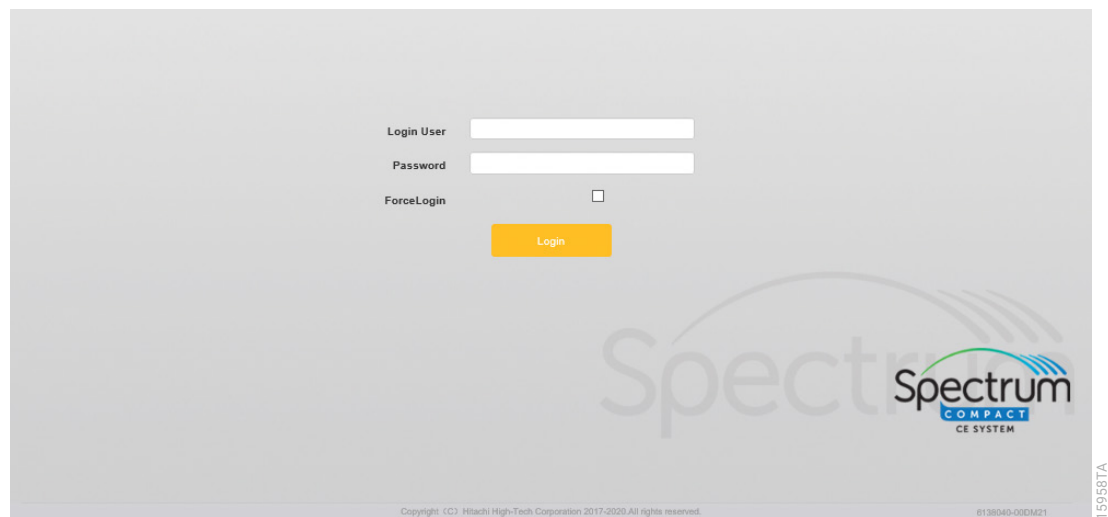

Figure 118. Spectrum Compact Remote Access Software 'Login' screen.
2. Once the user is logged out, the 'Login' screen appears (Figure 118).